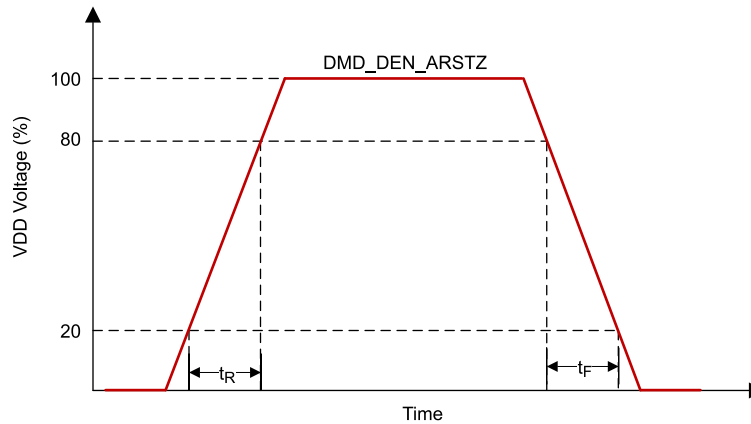

Figure 6-2. LPSDR Input Rise and Fall Slew Rate
- (1) Specification is for DMD_DEN_ARSTZ pin. Refer to LPSDR input rise and fall slew rate in Figure 6-2